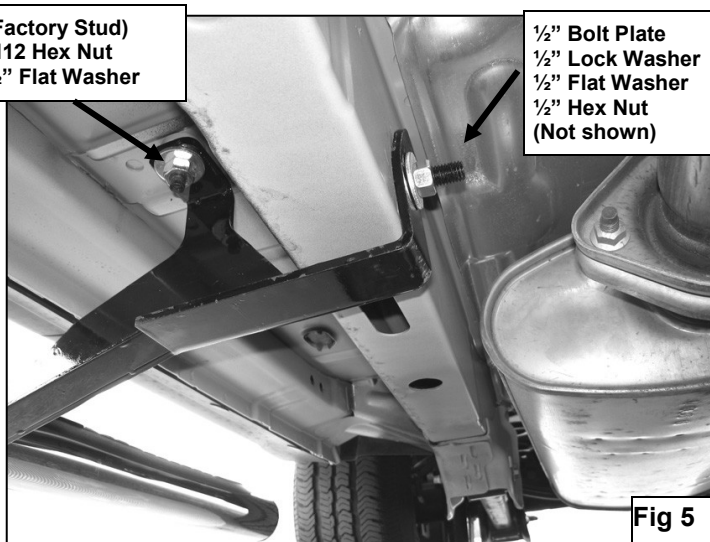

Fig 5
10. Repeat steps 2 -10 for passenger Sidebar. NOTE: Passenger side rear Mounting Bracket mounts the same as the driver side, except the passenger side mounts on the inner side of the frame rail (Figure 5).